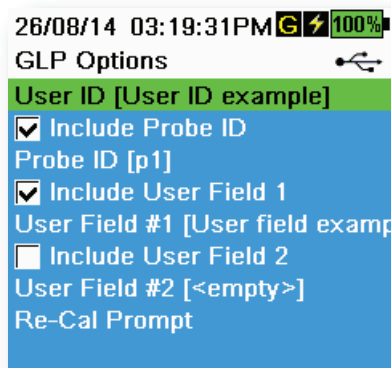

Figure 12 GLP Options
- Other user-specific identification (User Field #1 and #2) (Figure 12).